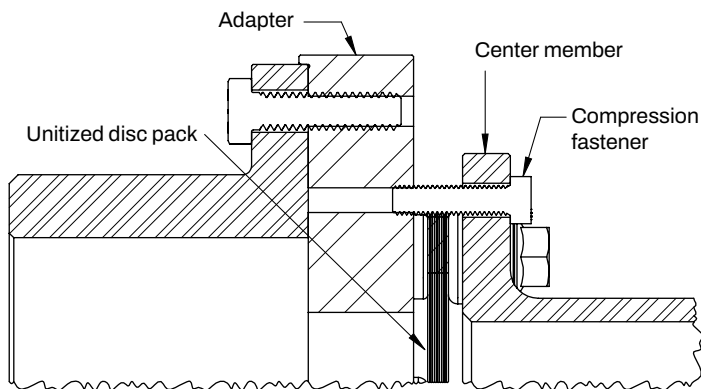

Figure 6: Compression Fasteners
- B.** Use the compression fasteners provided to compress the center member assembly by inserting them through the holes in the flanges of the center member and threading them into the adapter tapped holes as shown in Figure 6. Tighten the fasteners equally on both sides to compress only enough to allow the center member assembly to fit between the hubs.
- A.** Remove all fasteners from the hubs and compress the center member assembly by inserting the compression fasteners through the holes in the flanges of the center member and threading them into the adapter tapped holes as shown in Figure 6. Tighten the fasteners equally on both sides to compress only enough to allow the center member assembly to fit between the hubs.